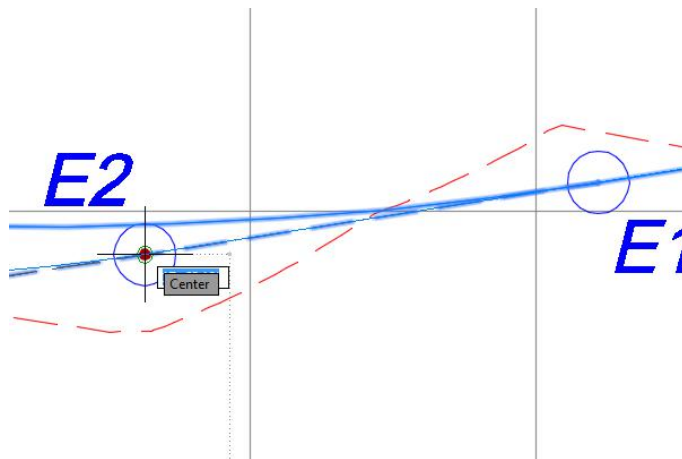

FIGURE 7.7 Moving the start point or endpoint grip
6. Click the circular grip at the center of circle E1, and move it to the center of circle E2, as shown in Figure 7.7.